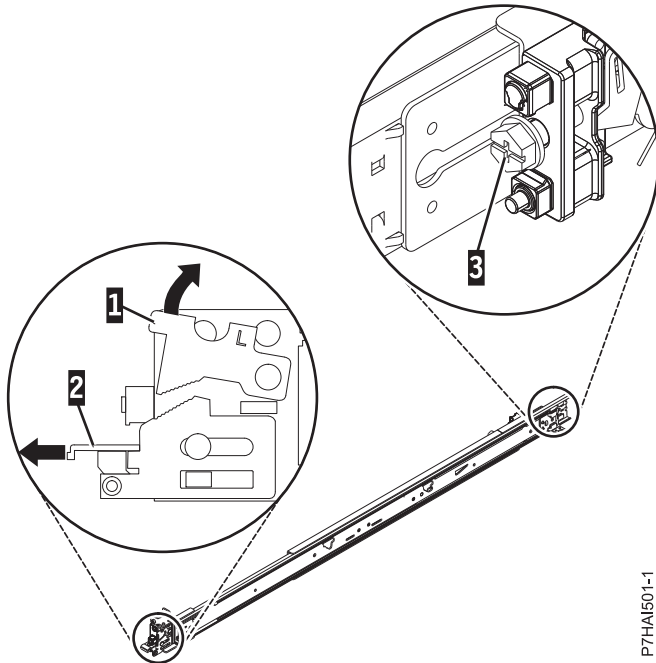

Figure 3. Opening the front latch
3. Move to the front of the rack. Push up on the locking tab (1) on the front of the rail, and pull out the front latch (2) at the front of the rail. For details, see Figure 3 on page 5.